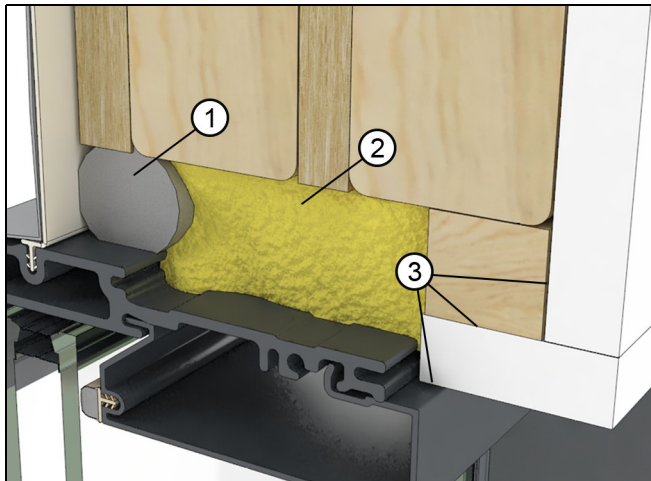

Figure 52
1. Apply insulation in the rough opening, against the backer rod installed earlier. Seal all joints where drywall returns to the window frame. See Figure 52.